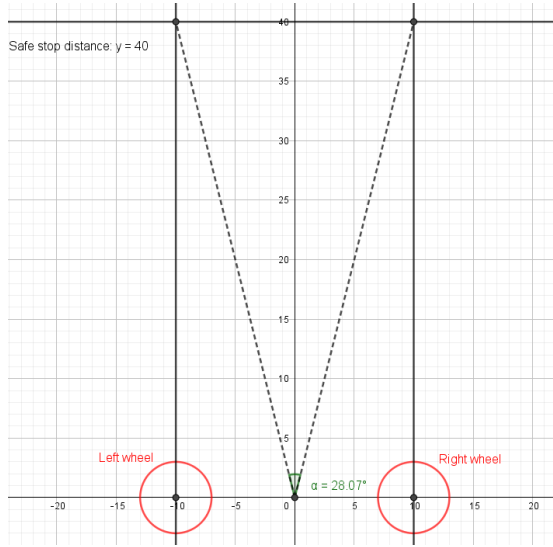

Fig. 4. Blind angles
3) *Checking the blind angles:* In addition to the three directions we had already implemented, we decided to focus on two more directions; the so-called blind angles. These were meant to make the robot able to avoid an obstacle if it was only slightly in front of it, but not so much that the average would get low enough to cause a turn event. We calculated these by measuring the minimal distance between two obstacles that robot could drive through - that is, the width of the robot, which we measured to be 20cm. We wanted the robot to begin avoiding the obstacles at the blind angles from a distance of 40cm. We got the result as depicted in figure 4. We also wanted these angles to be very narrow such that the robot would be able to detect even a small corner of some obstacle. For this reason we only looked at a span of 8 degrees.